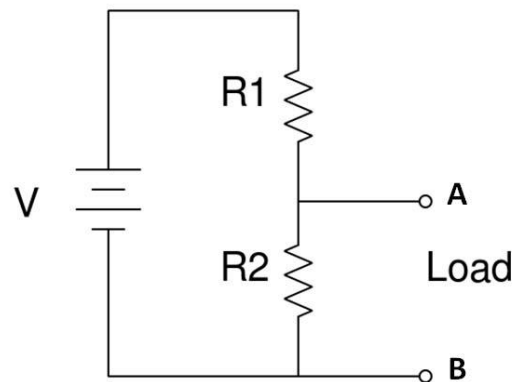

Figure 2: Circuit for Testing Loads
Now look at the circuit shown in Figure 2; This so called "voltage divider", it is very useful as it can be used to step-down the voltage from a voltage source to any smaller value, as defined by R_1 and R_2 . Often, the circuit is designed to deliver power to a 'load' or device.
- b) Using a potentiometer (you played with these in Lab 1) and a DC power supply with its output voltage set to 10V, construct a circuit that can deliver arbitrary voltages between 0V and 10V. (You can build a separate circuit for this). The circuit will be similar to that shown in Figure 2, with a potentiometer replacing $R1$ and $R2$. Measure V_{AB} while twisting the potentiometer knob. Does the circuit do what you expect it to? Discuss the pros and cons of using 1k Ω , 10k Ω and 100k Ω potentiometers to construct the voltage divider. You can either try this in practice, or think about it and write your conclusions.